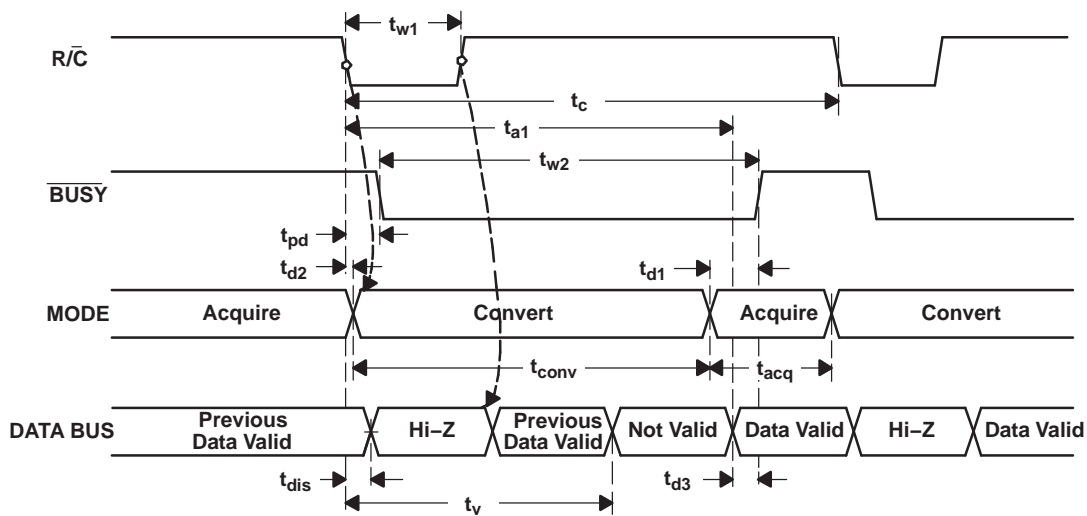
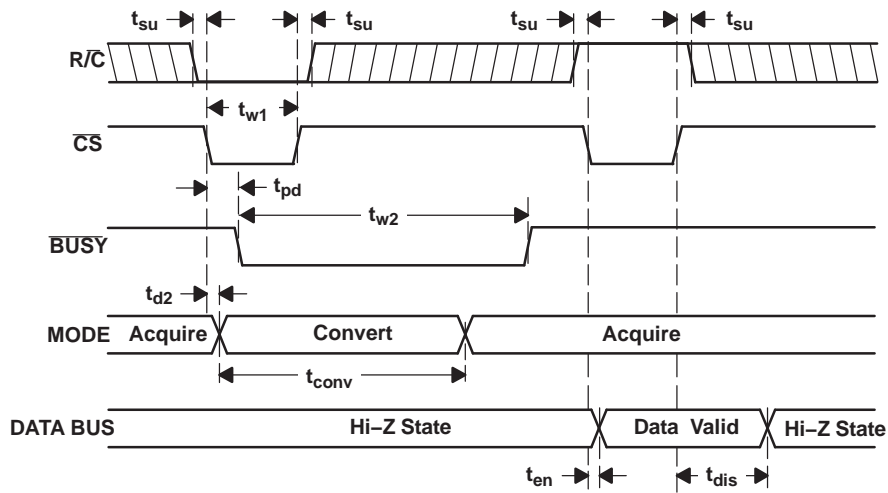
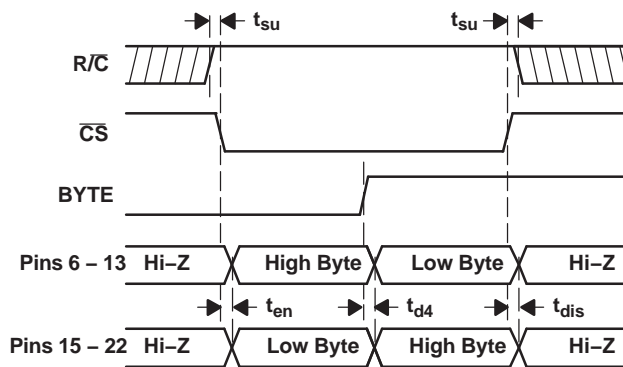

Figure 23. Conversion Timing with Outputs Enabled after Conversion (\bar{CS} Tied Low)
Figure 24. Using \bar{CS} to Control Conversion and Read Timing
Figure 25. Using \bar{CS} and $BYTE$ to Control Data Bus
The ADS8505 begins tracking the input signal at the end of the conversion. Allowing 4 μ s between convert commands assures accurate acquisition of a new signal. Refer to Table 1 for a summary of \overline{CS} , R/\overline{C} , and \overline{BUSY} states and Figure 23 through Figure 25 for the timing diagrams.
(1) See Figure 23 and Figure 24 for constraints on data valid from conversion $n-1$.
After conversion n is completed and the output registers have been updated, \overline{BUSY} (pin 26) goes high. Valid data from conversion n is available on D15-D0 (pins 6-13 and 15-22). \overline{BUSY} going high can be used to latch the data. Refer to Table 3, Figure 23, Figure 24, and Figure 25 for timing specifications.
After conversion n has been initiated, valid data from conversion $n-1$ can be read and is valid up to t_2 (2.2 μ s typ) after the start of conversion n . Do not attempt to read data from t_2 (2.2 μ s typ) after the start of conversion n until \overline{BUSY} (pin 26) goes high; this may result in reading invalid data. Refer to Table 3, Figure 23, Figure 24, and Figure 25 for timing specifications.
The number of control lines can be reduced by tying \overline{CS} low while using the falling edge of R/\overline{C} to initiate conversions and the rising edge of R/\overline{C} to activate the output mode of the converter. See Figure 23.